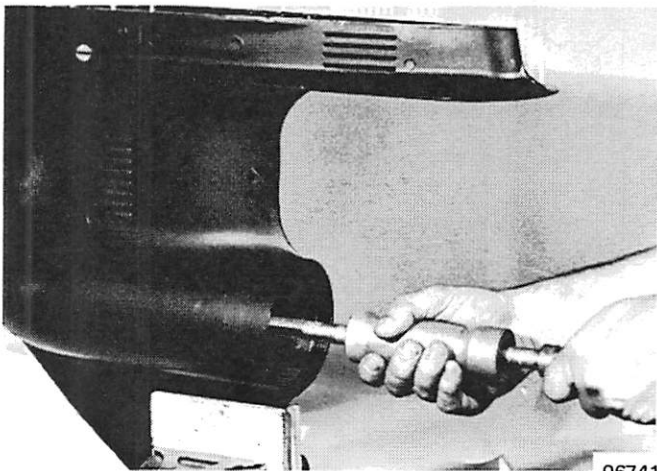

Figure 2. Removing Cup from Gear Housing
8. Remove bearing cup from gear housing with service tool C-91-31228A1. (Figure 2)